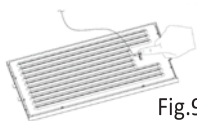

Fig.9.2
- To remove, always hold the baffle filter with one hand while depressing the handle and pull down the filter by the other hand. Remove the filter by unlocking the hook.(Fig.9.2)